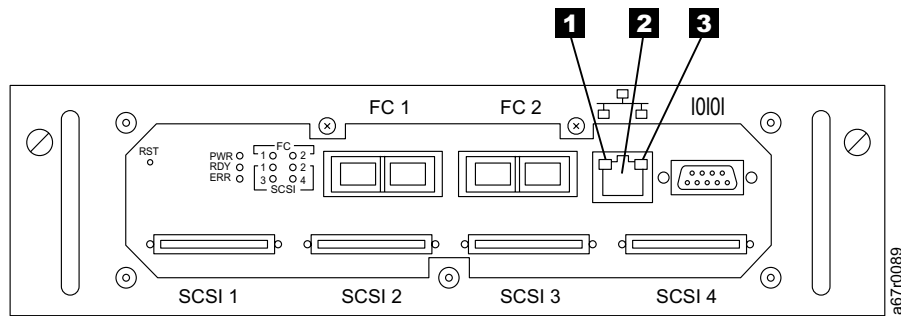

Figure 81. Gateway Ethernet Port
See Figure 81. Proceed with the test:
2. See Figure 81 on page 111 for this step. The RJ-45 Ethernet connector **2** is located on the panel of the Gateway.